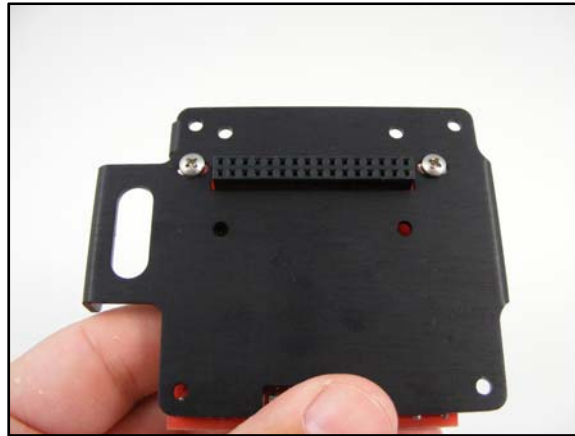

Figure 6
- 3.) If you are using a CMUcam2 or CMUcam3, bolt the camera onto the back of the Cam Plate using two 4-40 x 3/8" Pan Head screws as shown in figures 6 and 7 below. Make sure to place a plastic spacer (you cut in the prior step) between the camera board, and the back of the Cam Plate, so that the electronics don't touch the aluminum Cam Plate. NOTE: You will have to remove the camera module from the camera board first.